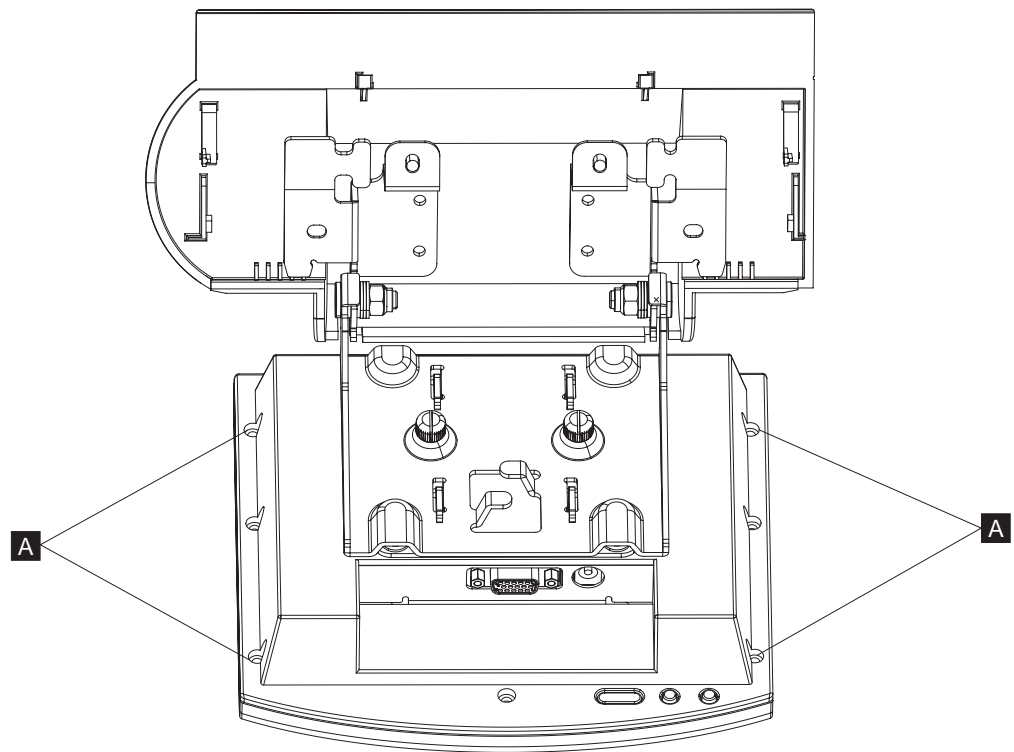

Figure 60. Sign attachment for 6.5 display
- There are four places on the 6.5" display. See **A** in Figure 60. A M3 X 10 screw can be used. These screws are to be provided by the customer. See "6.5 display sign point dimensions" on page 135 for dimensional details.